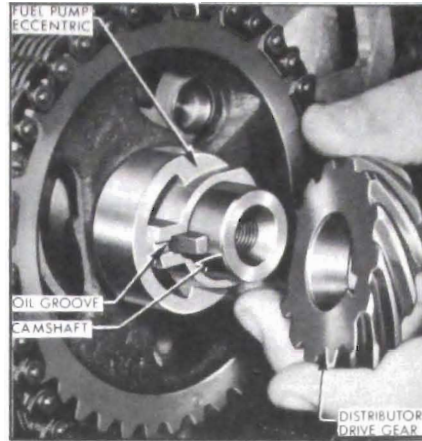

Figure 2-40—Fuel Pump Eccentric and Distributor Drive Gear Installation
5. Slide fuel pump eccentric on camshaft and Woodruff key with oil groove forward. See Figure 2-40.
6. Install distributor drive gear. See Figure 2-40.